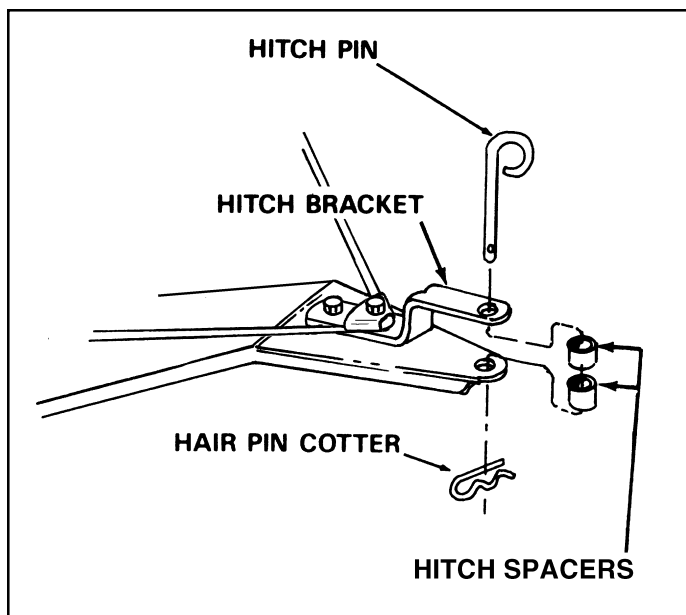

FIGURE 7
12. Assemble the hitch pin, the two hitch spacers and the $1/8"$ hair cotter pin to the hitch bracket and hitch tongue as shown in figure 7.